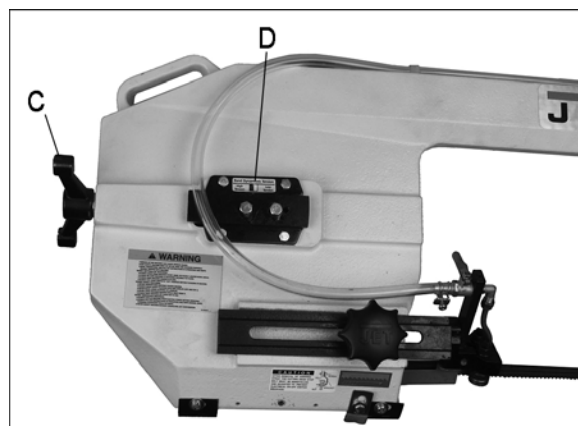

Figure 20
5. Loosen blade tension by turning handle (C, Figure 20) counterclockwise.
3. Lightly tension blade to remove any sag by turning handle (C, Figure 20) slightly clockwise.
4. Turn tension handle (C, Figure 20) 1-3/4 to two revolutions clockwise. This is equivalent to 800 kg (1764 lb) of blade tension.
8. Tighten blade by turning handle (C, Figure 20) two full revolutions.
TIP: Slacken blade tension when finished with operations, to prolong blade life. Make note of indicator position on tension label (D, Figure 20) for quickly returning tension to its previous setting.